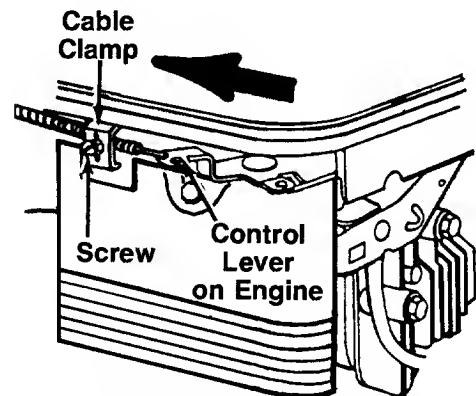

FIGURE 13.—Briggs & Stratton Quantum Engines
1. Remove the screw shown in figure 13. Remove the cable clamp from the cable.